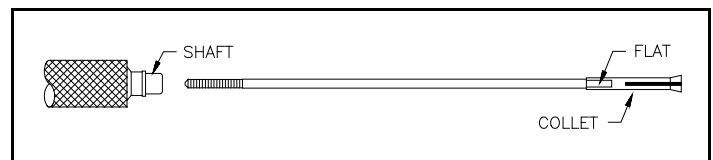

Figure 2.
3.2 **CAUTION:** Insert the collet carefully. **IMPORTANT:** With a **VERY SLIGHT** pressure on the end of the collet, turn it slowly until it engages with the flat. See Figure 2. Slide it in until it seats into the shaft. **DON'T** force the collet.